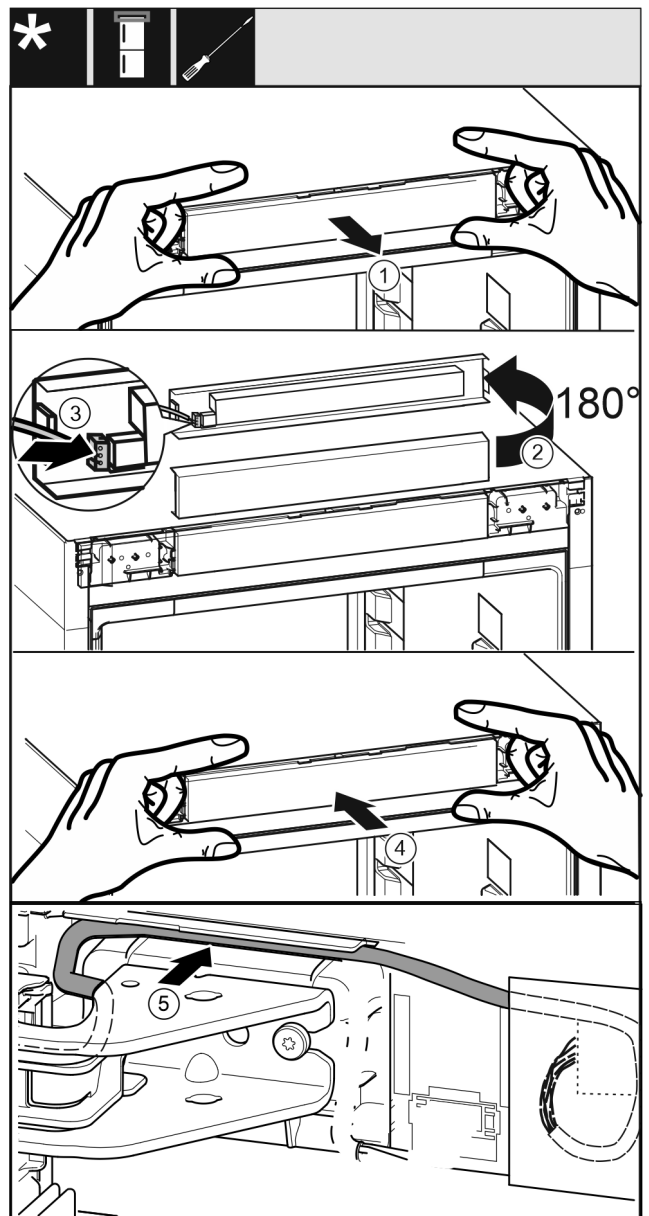

Fig. 40
- ▶ Remove the control panel trim Fig. 40 (1) carefully.
- ▶ Turn the control panel trim *Fig. 40 (2)* up by 180°.
- ▶ Engage the plug *Fig. 40 (3)* on the control panel trim.
- ▶ Re-engage the control panel trim *Fig. 40 (4)* on the appliance.
- ▶ Lay the cable *Fig. 40 (5)* carefully in the guide above the top swap bearing block.